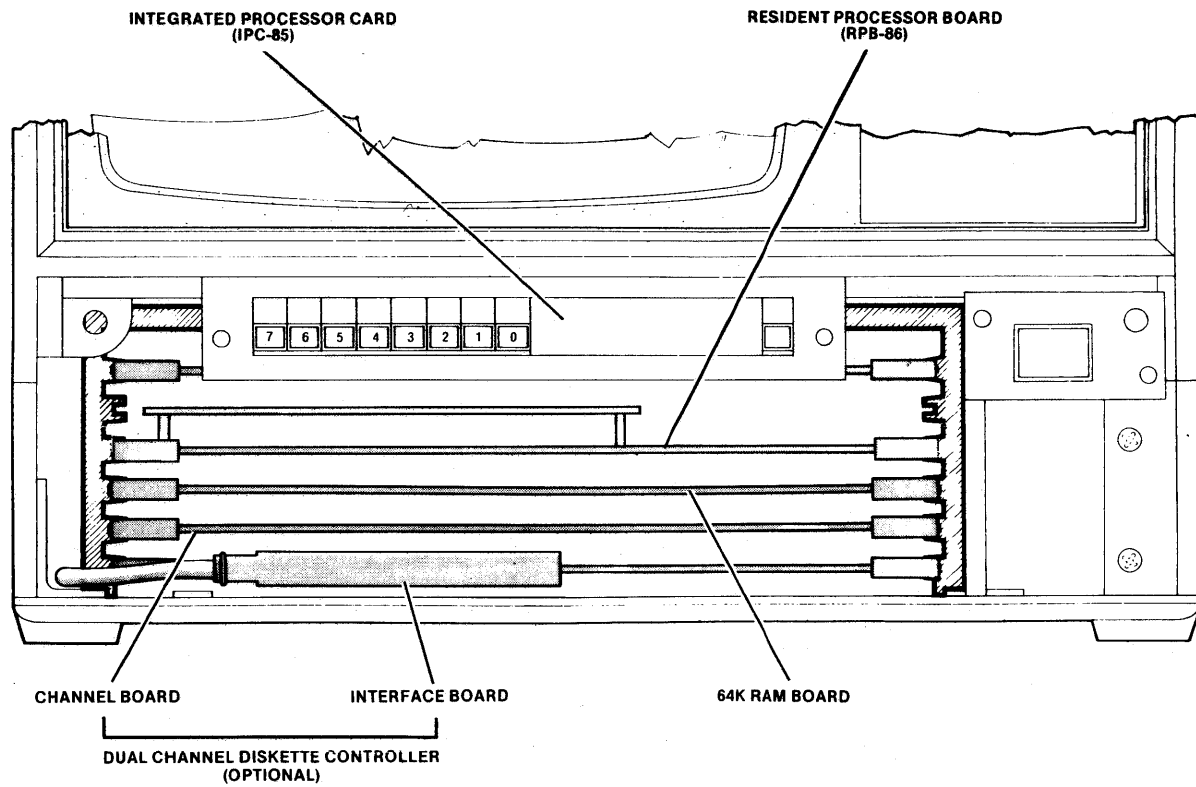

Figure 2-5. Mainframe Cardcage Configuration
Figure 2-5 shows the mainframe cardcage configuration when the system does not include an optional expansion chassis. Figure 2-6 shows the mainframe /expansion chassis cardcage configuration when an expansion chassis is installed.
- j. Install RPB-86 board in the two adjacent slots directly below IPC-85 board. (Refer to figure 2-5